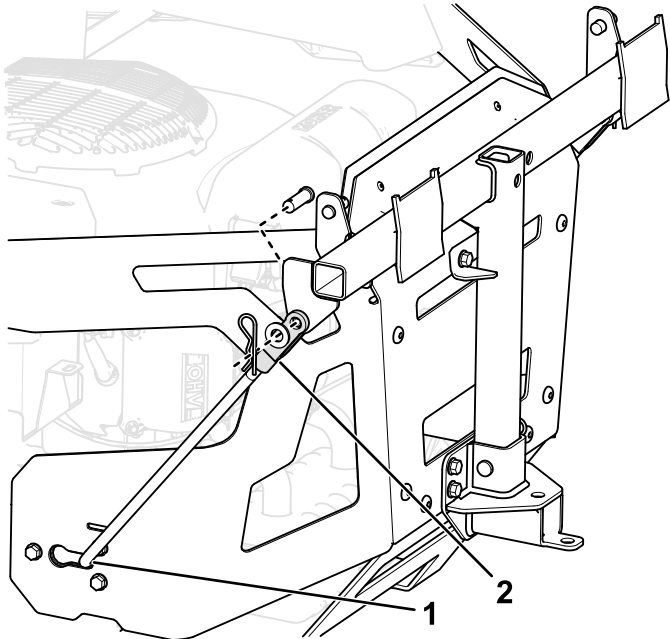

Figure 16
5. Install the bent, flared end of a rod into the keyed slot in the side of the machine frame, and move the rod rearward to seat it in the frame (Figure 16).
7. Secure the ends of the rods to the bagger frame as shown in Figure 16 and secure the end of each rod with a clevis pin and a hairpin.